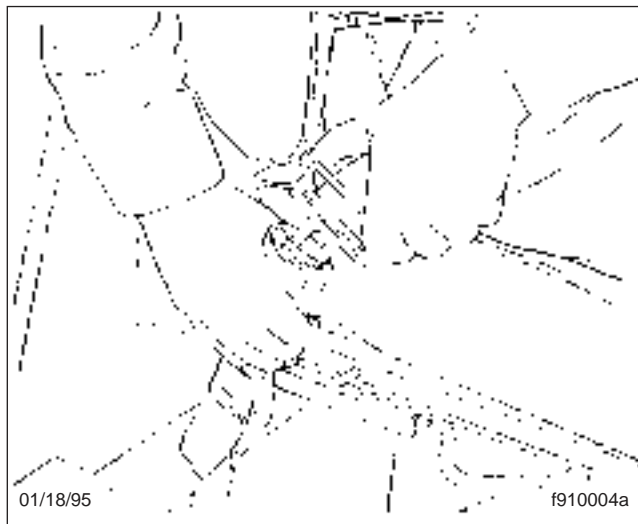

Fig. 5.19, Fastening the Three-Point Belt
2. Fasten the three-point seat belt by pushing the latch into the buckle. Listen for an audible click. See **Fig. 5.19**.